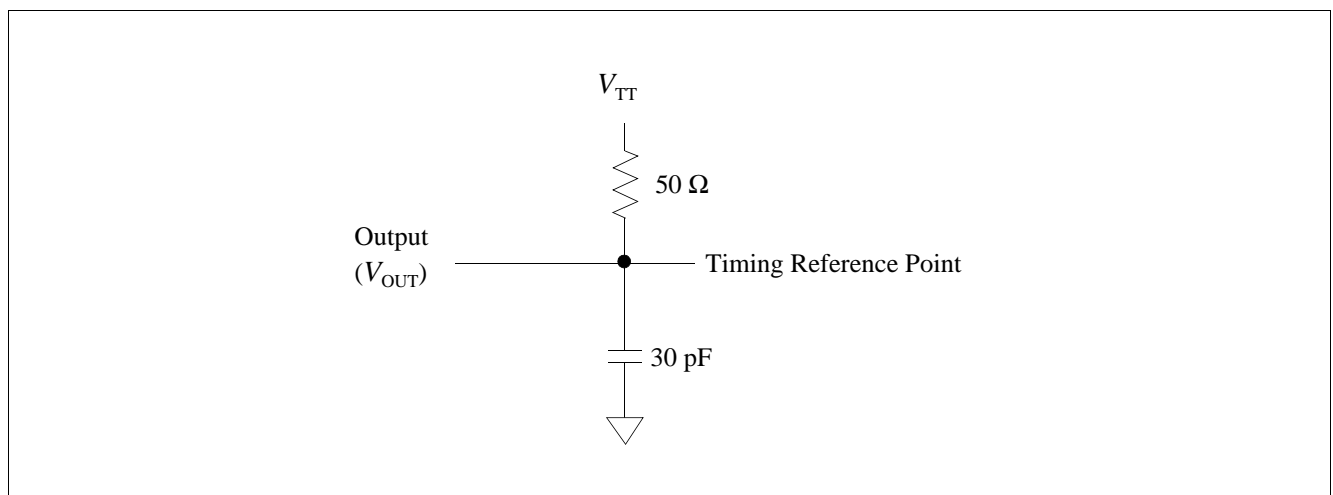

Figure 33 AC Output Load Circuit Diagram / Timing Reference Load
3. **Figure 33** represents the timing reference load used in defining the relevant timing parameters of the part. It is not intended to be either a precise representation of the typical system environment nor a depiction of the actual load presented by a production tester. System designers will use IBIS or other simulation tools to correlate the timing reference load to a system environment. Manufacturers will correlate to their production test conditions (generally a coaxial transmission line terminated at the tester electronics).